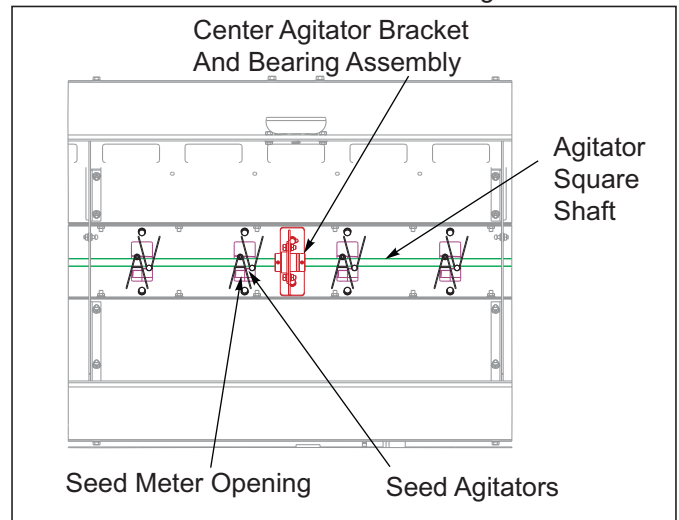

Figure 3-10: Middle Agitator Bracket
13. Install two seed agitators over each seed meter opening using 1/4 x 1-3/4 hex screws and lock nuts. Agitators should be installed on opposite sides of the agitator shaft. Make sure the shafts will turn freely and not bind or catch on anything after assembly **See Figure 3-10.**
14. Install an idler sprocket, 17/32 spacer, (3) flat washers, 1/2 x 3 screw, and locknut in the front seed box bracket hole.